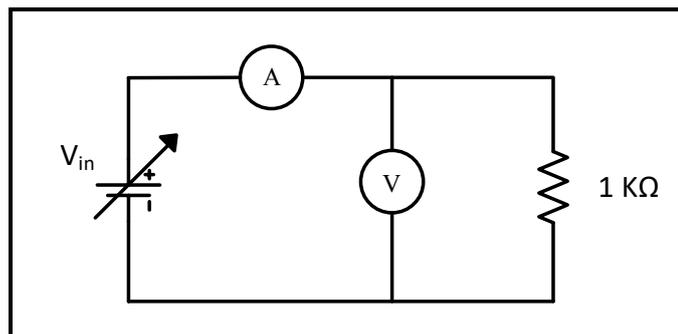

Figure 9.4
1. Connect the circuit of Figure 9.4